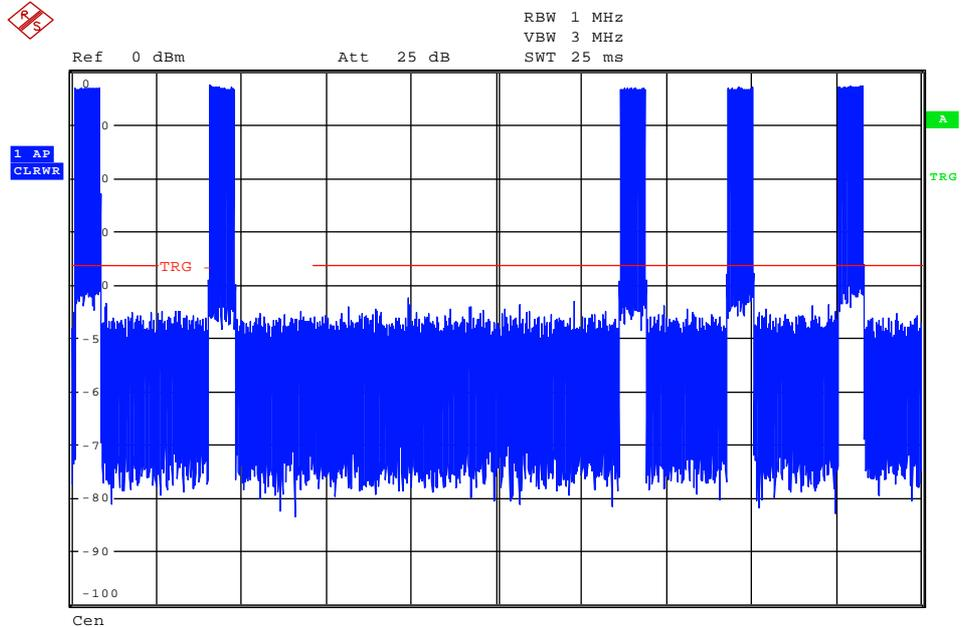

Fig 4: PTM200(C) Sub Telegram Timing
Figure 4 shows the timing sequence of one typical PTM200(C) telegram: each of the five sub telegrams is about 0.7 ms long. The delay between the first and second sub telegram is 4 ms. After a minimum delay of 8 ms a third sub telegram with an additional pseudorandom delay of 0, 2, 4 or 6 ms is send. After the third sub telegram, up to 2 additional sub telegrams with fixed timing may follow, dependent on the available energy.